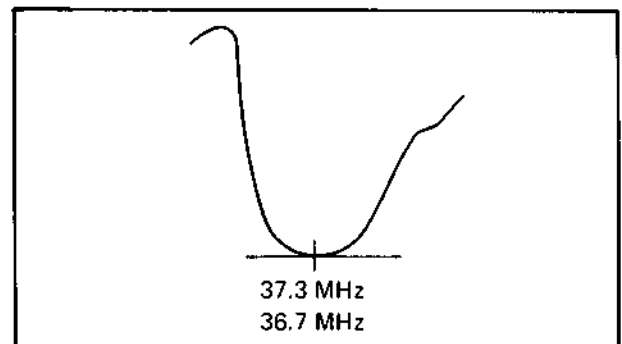

Fig. 6-49
10. Adjust the core of T105 so that the waveform becomes round and symmetrical at around 37.3 MHz (HR-3330EK), 36.7 MHz (HR-3330EG) as shown in Fig. 6-49.
11. Adjust C116 (trimmer cap.) so that the waveform height becomes 62.5 % of the peak level at the 35.07 MHz and 39.5 MHz (HR-3330EK), 34.47 MHz and 38.9 MHz (HR-3330EG) markers as shown in Fig. 6-49.